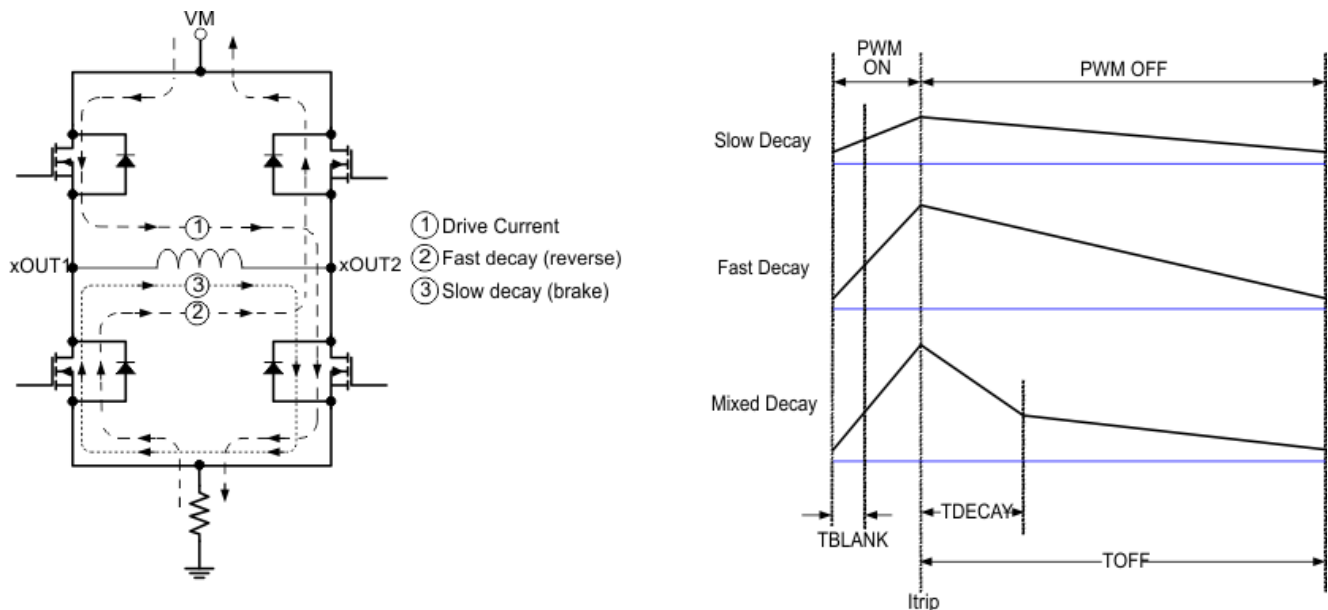

Figure 7-7. Decay Modes
During PWM current chopping, the H-bridge is enabled to drive through the motor winding until the PWM current chopping threshold is reached. This is shown in Figure 7-7, Item 1.
Once the chopping current threshold is reached, the H-bridge can operate in two different states, fast decay or slow decay. In fast decay mode, once the PWM chopping current level has been reached, the H-bridge reverses state to allow winding current to flow in a reverse direction. Fast decay mode is shown in Figure 7-7, item 2. In slow decay mode, winding current is re-circulated by enabling both of the low-side FETs in the bridge. This is shown in Figure 7-7, Item 3.